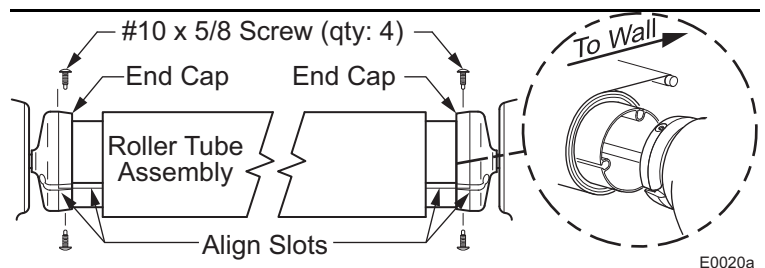

Figure 4. Assembling the Awning.
4. (Refer to Figure 4) Align the roller assembly with the end cap on the motorized arm assembly. Rotate the end cap until the slot in the cap aligns with the empty slot in the roller assembly, and then press the roller assembly fully into the cap. The end cap must seat squarely over the end of the roller assembly when complete.